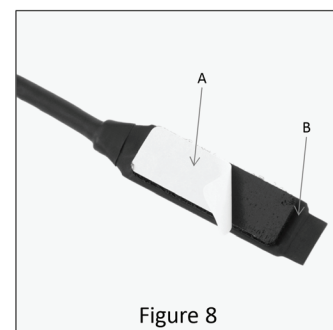

Figure 8
11. Peel back one of the paper backings on the included hook and loop Pressure Sensitive Adhesive Strip (Figure 8-A) and press it into place on the back side of the Remote Pressure Switch (Figure 8-B).